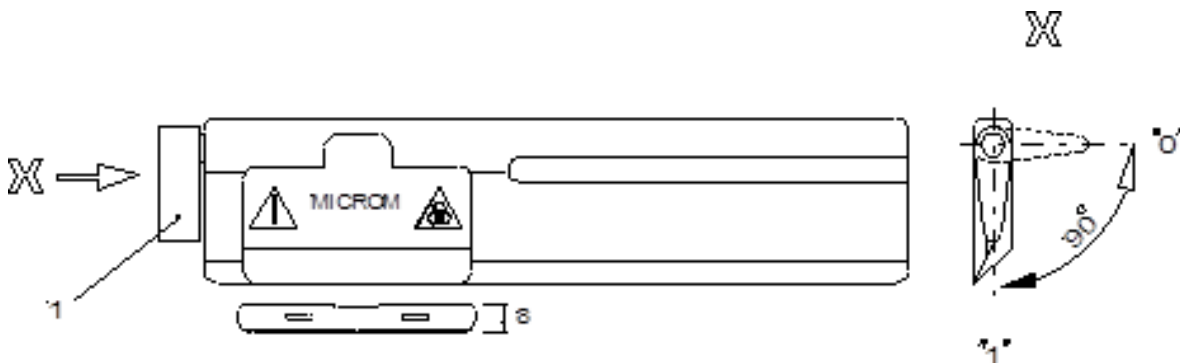

Figure 19
- To insert the blade, turn the clamping lever to 0 (Figure 19).